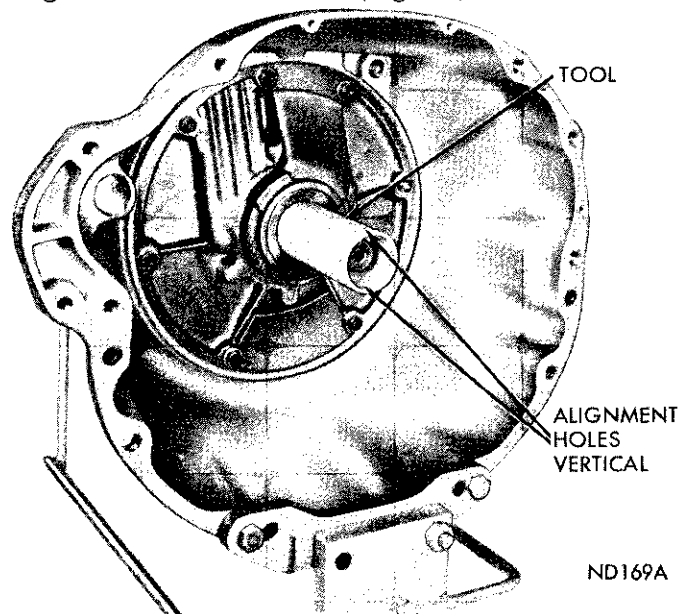

Fig. 77—Aligning Pump Rotors
(1) Rotate pump rotors with Tool C-3881 until the two small holes in handle of Tool are vertical (Fig. 77).
(2) Carefully slide converter assembly over the input shaft and reaction shaft. Make sure converter impeller shaft slots are also vertical and fully engage the pump inner rotor lugs.